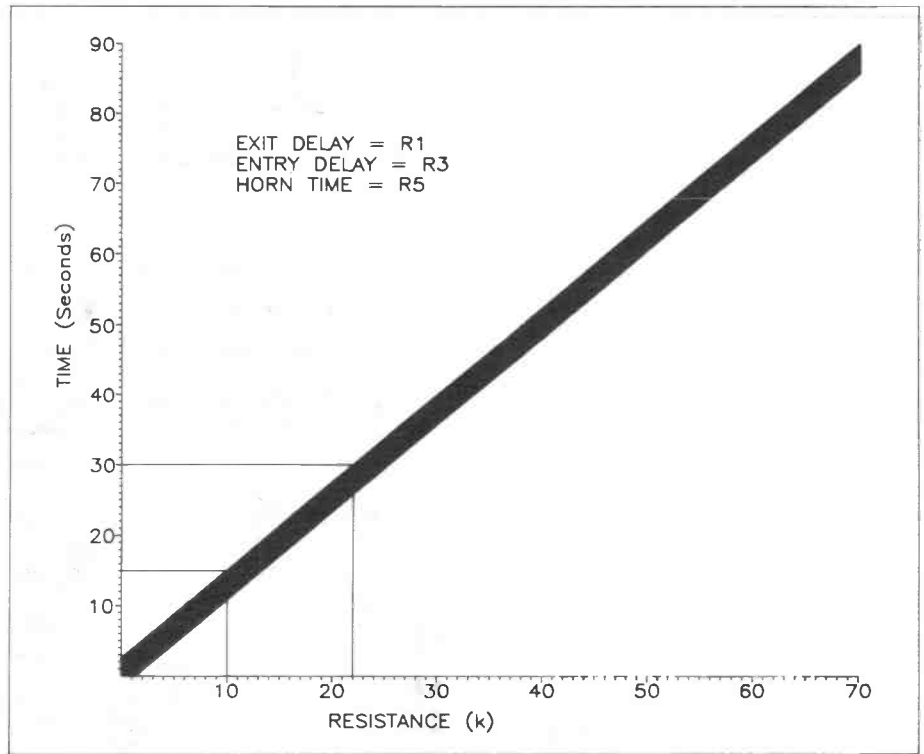

Figure 2. Timing chart.
The timing and control of various events can be modified. To alter the time lapse of an event is a simple matter of fitting a different value resistor (R) for that particular programmable timer IC. Thus altering the value of R1 will affect the exit delay time, changing R3 alters the entry delay, and R5 fixes the horn time, see Figure 2. The only instance where it might become really necessary to alter the exit delay period is if your vehicle is fitted with a